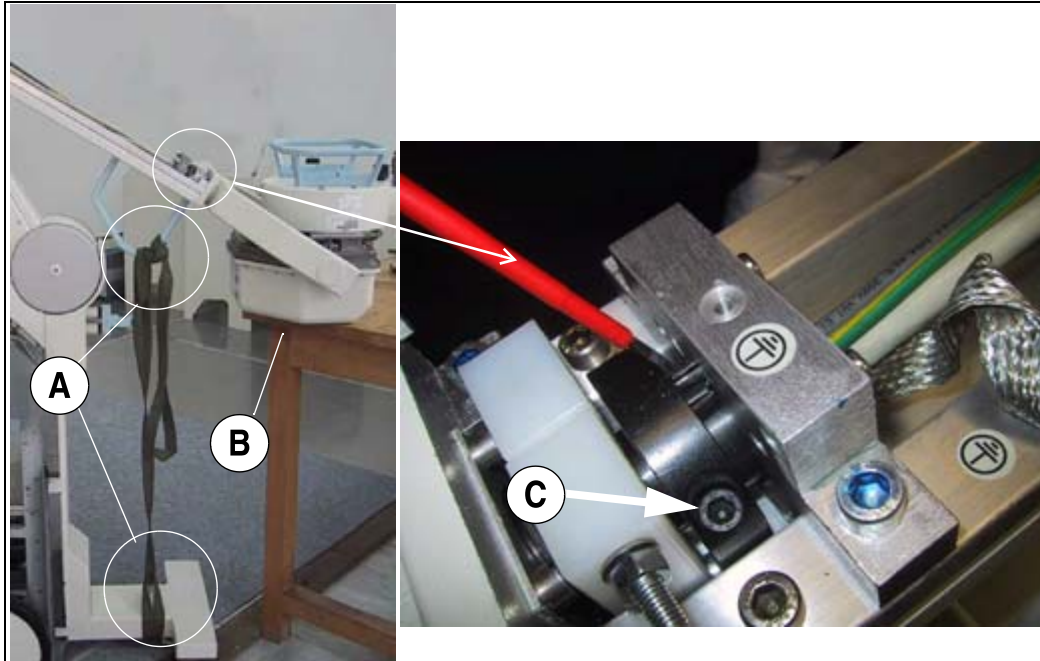

Fig. 53: Fastening the support arm
- Secure the support arm with a tightening belt or rope (B/Fig. 53 / p. 64). Ensure that the single tank can be safely removed.
- Mark the position of the stop unit (C/Fig. 53 / p. 64) and remove it.
- Screw on the stop unit of the swivel joint of the fork as previously marked (C/Fig. 53 / p. 64).